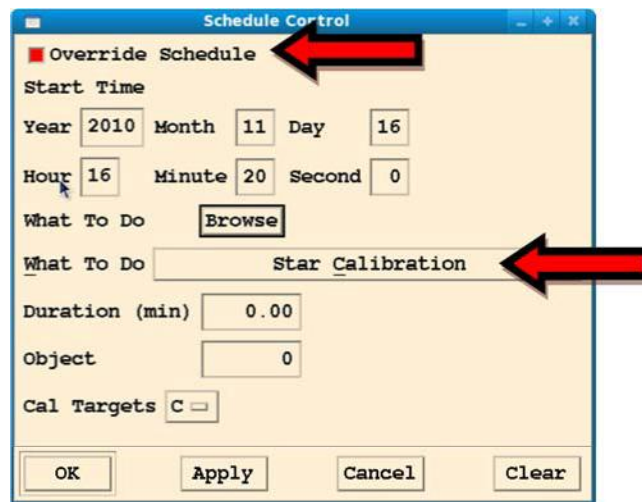

Figure 5-3: Schedule control window
- b. Select the Override Schedule button (Figure 5-3).
- c. Open the What to Do pull down menu and select Star Calibration (Figure 5-3).